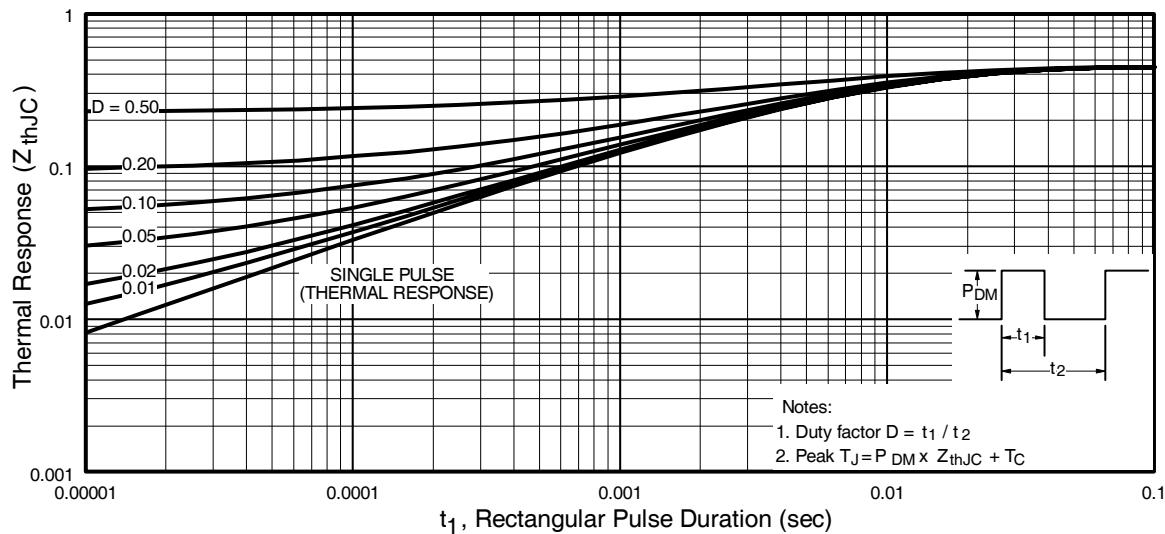

Fig 11. Maximum Effective Transient Thermal Impedance, Junction-to-Case
- ① Repetitive rating; pulse width limited by max. junction temperature. (See fig. 11)
- ② Starting $T_J = 25^\circ\text{C}$, $L = 85\mu\text{H}$
$Z_{thJC}(D, t_{av})$ = Transient thermal resistance, see figure 11)